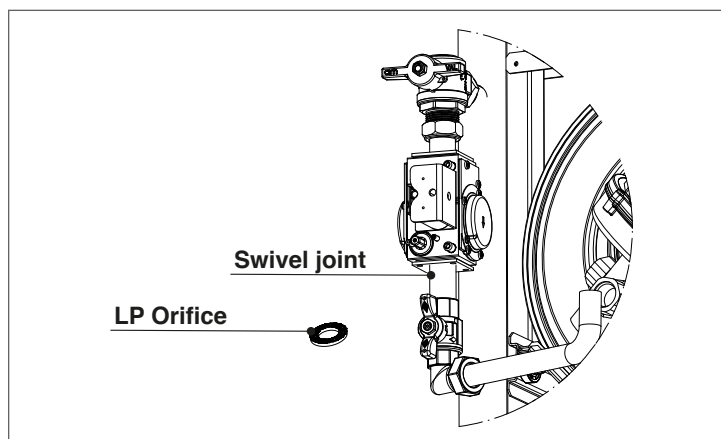

Fig. 20 Natural Gas to LP Gas Conversion
- Unscrew the swivel joint indicated in Fig. 20 to separate the valve from the connection pipe with the fan
- Place the provided metal orifice (Fig. 20) between the two gaskets (N° on orifice: 9.5)